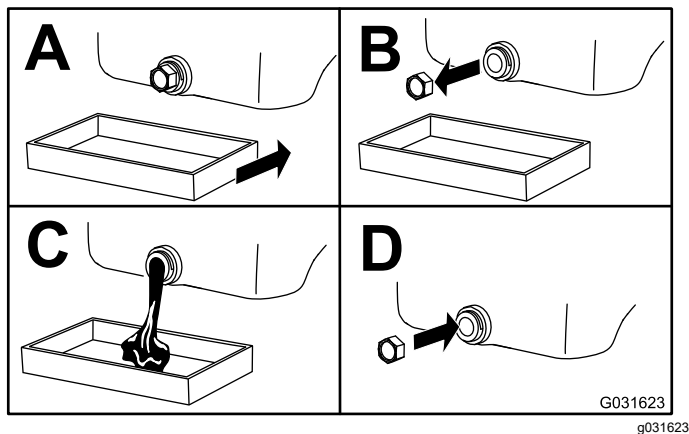

Figure 35
3. Change the oil (Figure 35).